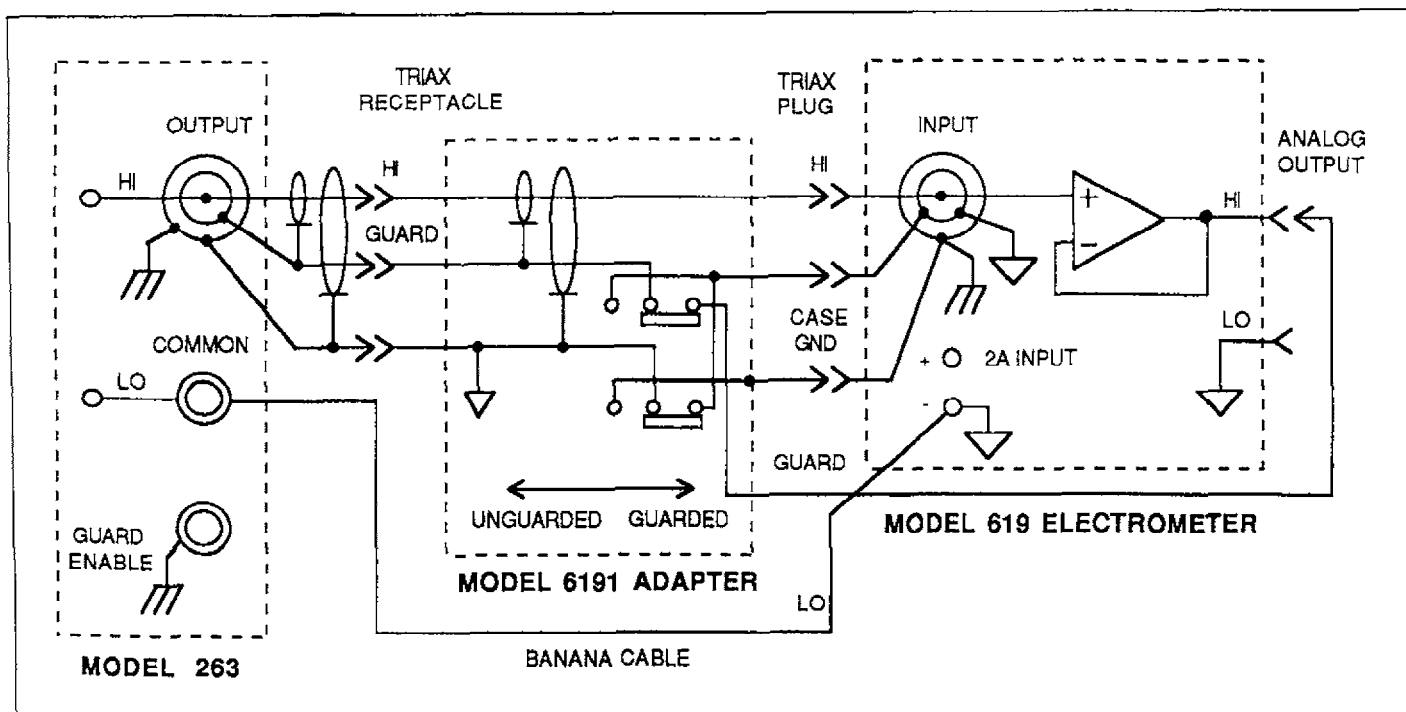

Figure 5-8. Sourcing Guarded Ohms to Electrometer Using an Input Adapter
3. 20G Ω Range Calibration (steps 11 and 12)—These steps use resistors that are installed in a shielded, guarded fixture that must be built. The actual resistance of this "ohms source" is then measured by a teraohmmeter (Guildline Model 9520). A much simpler alternative is to use the Model 263 to source 10G Ω to the Model 619. The Model 263 must be in the guarded configuration and connected to the Model 619 through the Model 6191 Guarded Input Adapter (see Figure 5-8).